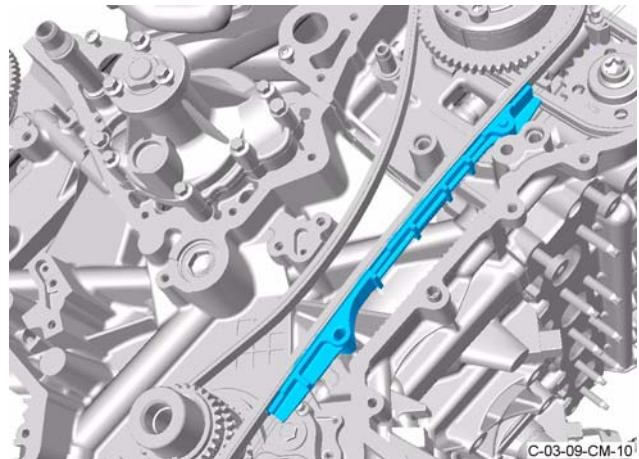

Figure 11
3. Install the timing chain guide (refer to Figure 11).